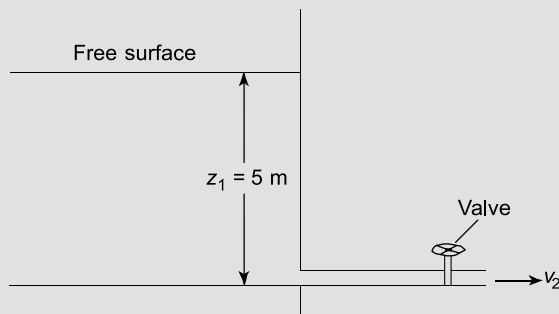

Figure 23.12
**Problem 2.** A storage tank contains oil whose free surface is 5 m above an outlet pipe, as shown in Figure 23.12. Determine the mass rate of flow at the exit of the outlet pipe, assuming that (a) losses at the pipe entry =  $0.4 v^2$ , and (b) losses at the valve =  $0.25 v^2$ .
- If in the storage tank of worked Problem 2 on page 268, Figure 23.12,  $z_1 = 8$  m, determine the mass rate of flow from the outlet pipe.
- If in the storage tank of worked Problem 2, page 268, Figure 23.12,  $z_1 = 10$  m, determine the mass rate of flow from the outlet pipe.